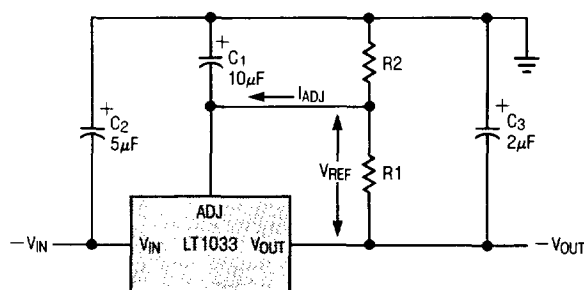

Figure 1
**Output Voltage:** The output voltage is determined by two external resistors,  $R_1$  &  $R_2$  (see Figure 1). The exact formula for the output voltage is: